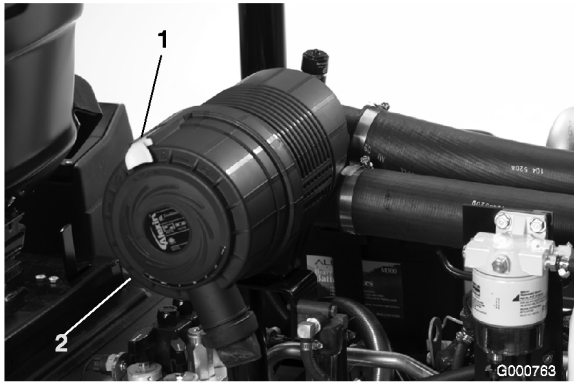

Figure 39
1. Pull the latch outward and rotate the air cleaner cover counterclockwise (Figure 39).